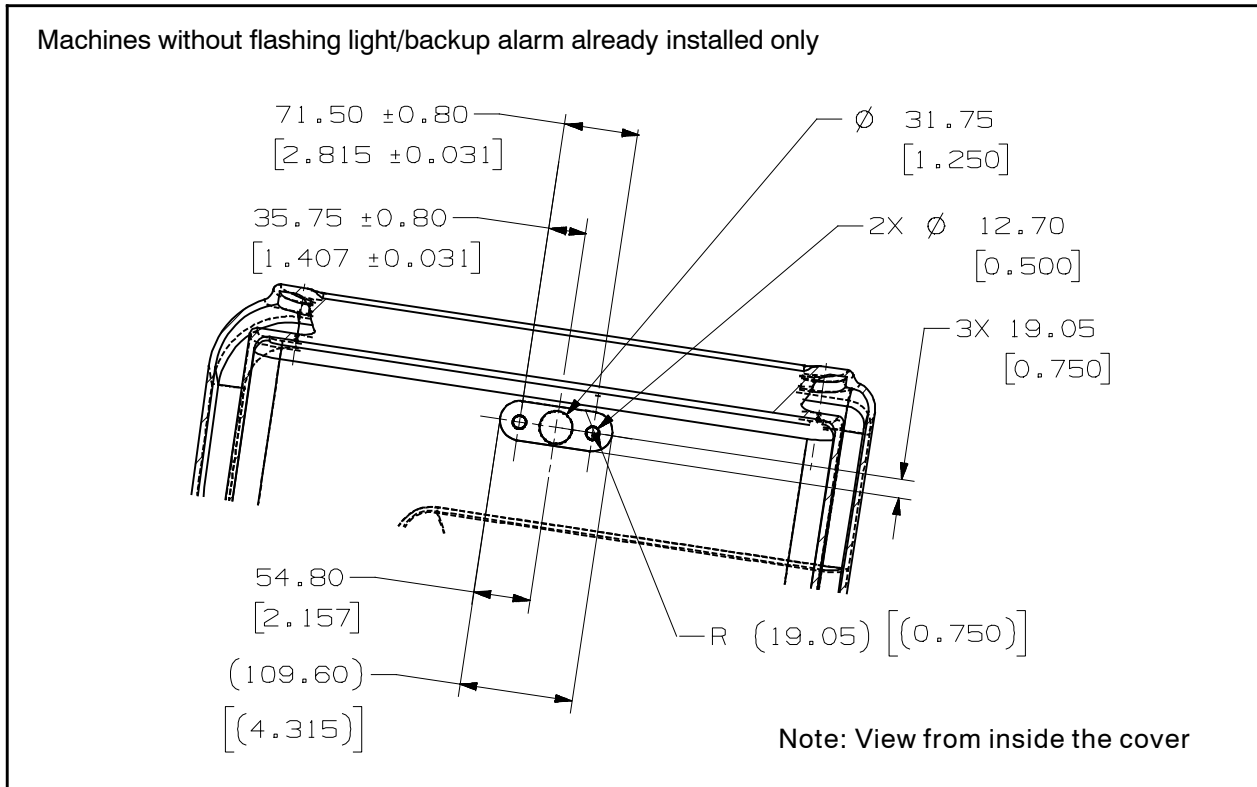
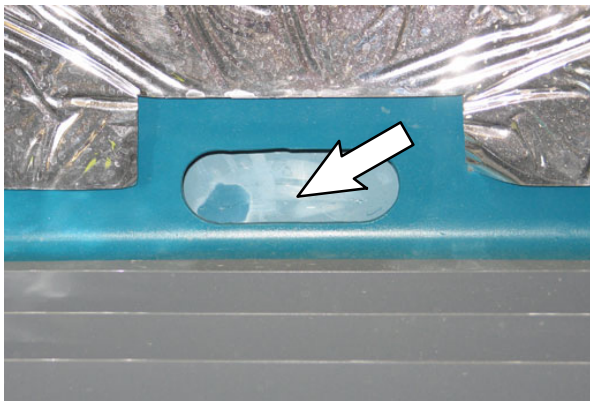

FIG. 3
FIG. 4
- Machines without flashing light/backup alarm already installed:** Drill a 0.25 in. (6.35 mm) pilot hole into the center of the slot in the main cover. (Fig. 3/Fig. 4)
- Machines without flashing light/backup alarm already installed:** Use the 0.25 in. (6.35 mm) hole drilled in the previous step as a reference to measure locations for the two 0.50 in (12.7 mm) holes. (Fig. 3)
- Machines without flashing light/backup alarm already installed:** Use a hole saw to cut one 1.25 in. (31.75 mm) hole into the main cover. (Fig. 3)
- Machines without flashing light/backup alarm already installed:** Drill two 0.50 in. (12.7 mm) holes into the main cover. (Fig. 3)